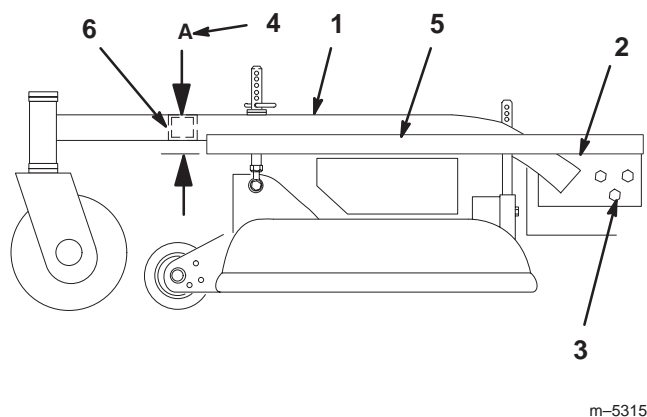

Figure 45
2. Place a long straight edge on top of the engine deck as shown in figure 45.
3. At the carrier frame cross tube, measure location “A” height (Fig. 45). This measurement must be 2–13/16 in. (71 mm), plus or minus a 1/4 in. (6 mm).
5. Loosen the carrier frame mounting bolts on both sides of the machine (Fig. 45).
6. Align the carrier frame and engine deck to match 2–13/16 in. (71 mm), plus or minus a 1/4 in. (6 mm) at location “A” (Fig. 45).